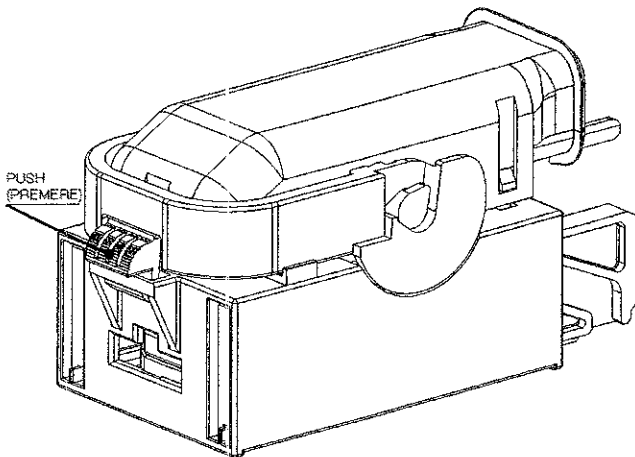
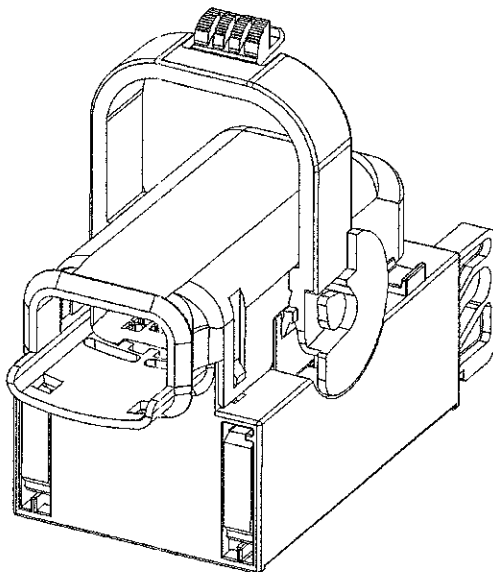

Figure 21 (Figura 21)
Figure 23 (Figura 23)
- Push the unlock button lever as shown in Figure 21 and rotate the lever up to the vertical position respect to the mating plane, as show in Figure 22; a lock noise must be heard (Detail of Figure 23)